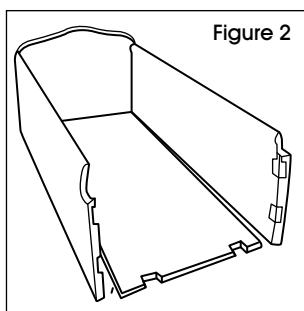

Figure 2
3. Position the back panel between the side panels with the words "BACK PANEL" facing up. Align the tabs and slots and push the upper back panel toward the roof until it locks into place. (See Figure 2)